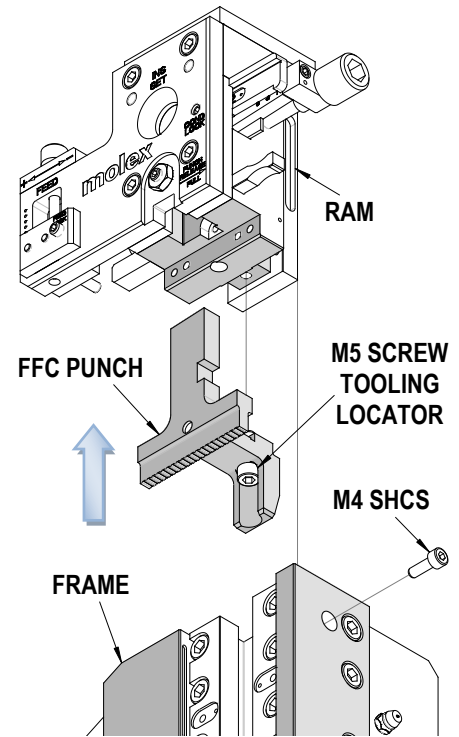

Figure 2-6
3. Install the FFC crimp punch and Tooling Locator in the ram. See Figure 2-6.